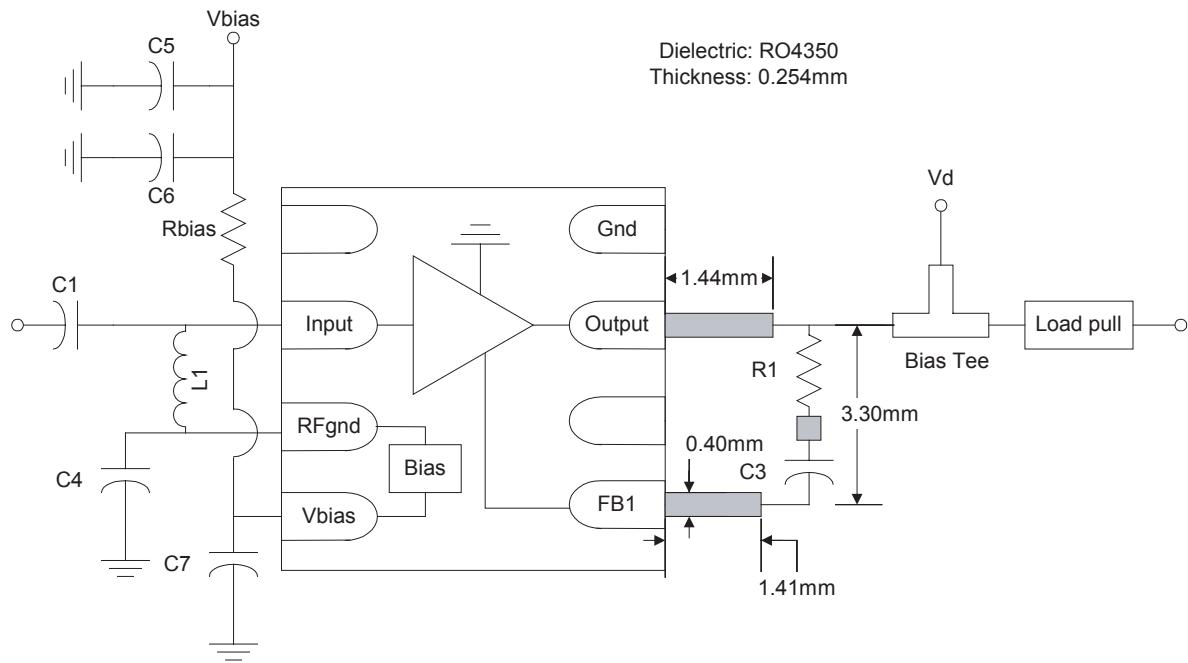

Figure 34. Test setup for load pull data
2. S and noise parameters are measured on PCB. The PCB material is 10 mils Roger R04350. Figure 34 shows the input and output reference plane.
1. S-parameters are measured on PCB. The PCB material is 10 mils Roger RO4350. Figure 34 shows the input and output reference plane.